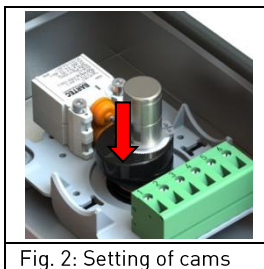

Fig. 2: Setting of cams
1. Bring the actuator in the desired end position 1. Adjust the lower cam first. Press the cam down and turn it into the position in which it actuates the switch. Now let the cam engage again with the gearing. (Fig. 2)